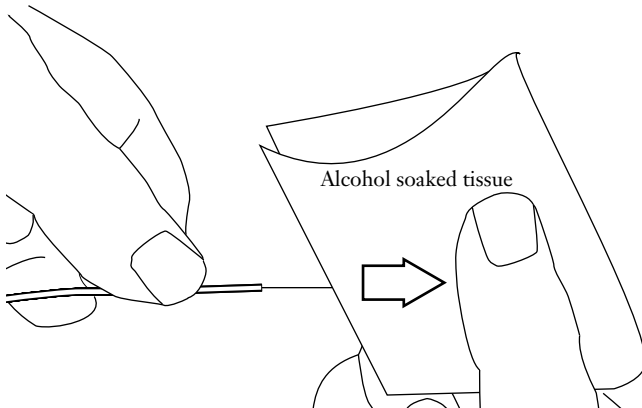

Figure 8
**4.10** Using a lint-free tissue soaked with alcohol, clean the stripped fiber (Figure 8). Avoid handling the cleaned area of fiber.